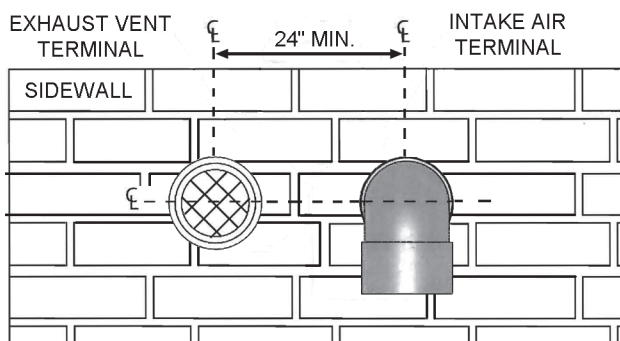

FIGURE 15C
6. If the vent pipe is installed up to the wall, with a coupling on the end against the wall opening, the pipe with the vent terminal can be prepared for gluing before inserting through the wall. Slide the pipe through the wall and insert into coupling on the other side of the wall, making sure that the vent terminal ends up pointed in the correct position (Figure 15C and 16).